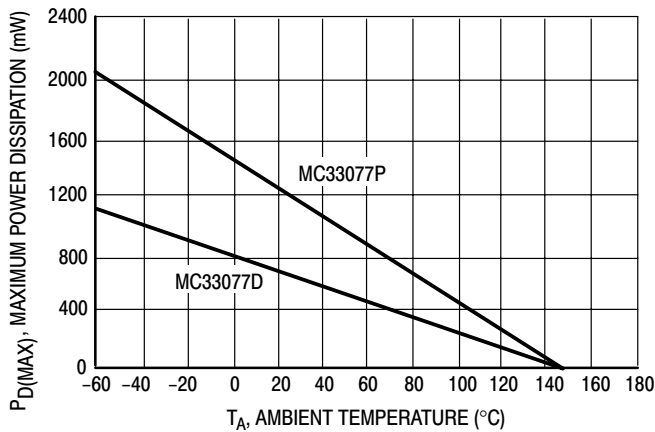

Figure 2. Maximum Power Dissipation versus Temperature
2. Power dissipation must be considered to ensure maximum junction temperature (T_J) is not exceeded (See power dissipation performance characteristic, Figure 2).